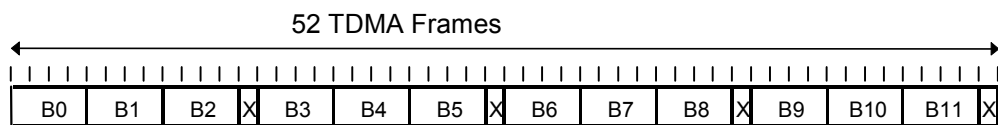

Fig. 56 52-multiframe for PDCH
The CMU provides a GPRS or EGPRS signal with a 52-multiframe structure as shown in *Fig. 56 below*. Each 52-multiframe contains 12 blocks of 4 consecutive frames (B0 to B12), 2 idle frames (X) and 2 frames used for the Packet Timing Advance Control Channel (X). All blocks in the signal are coded and modulated with the same coding and puncturing scheme. For EGPRS channels, all data blocks are punctured with scheme P1.